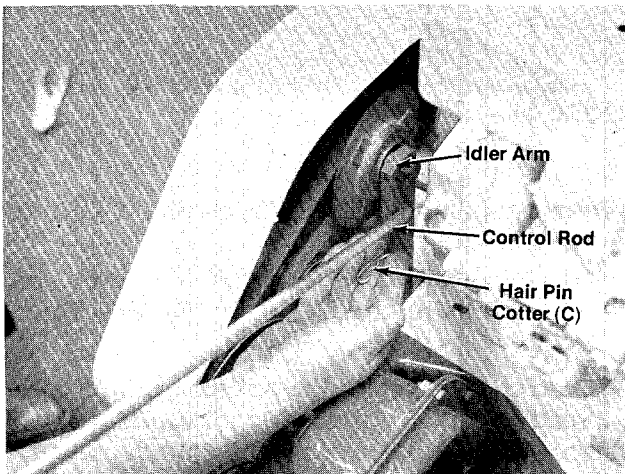

FIGURE 13.
- Hook other end of control rod into idler arm and secure with hair pin cotter (C). See figure 13.